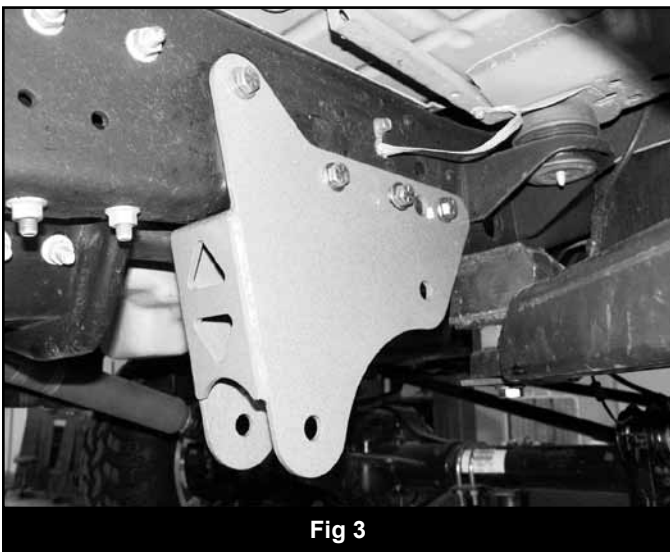

Fig 3
13. Place the new passenger's side 4-Link bracket (02027) up to the frame and align the existing rivet holes with the corresponding holes in the bracket. Attach the bracket with $\frac{1}{2}$ " x 1-1/2" bolts, nuts and $\frac{1}{2}$ " SAE flat washers from bolt pack #432. Torque $\frac{1}{2}$ " hardware to 70 ft-lbs. (Fig. 3, 4)